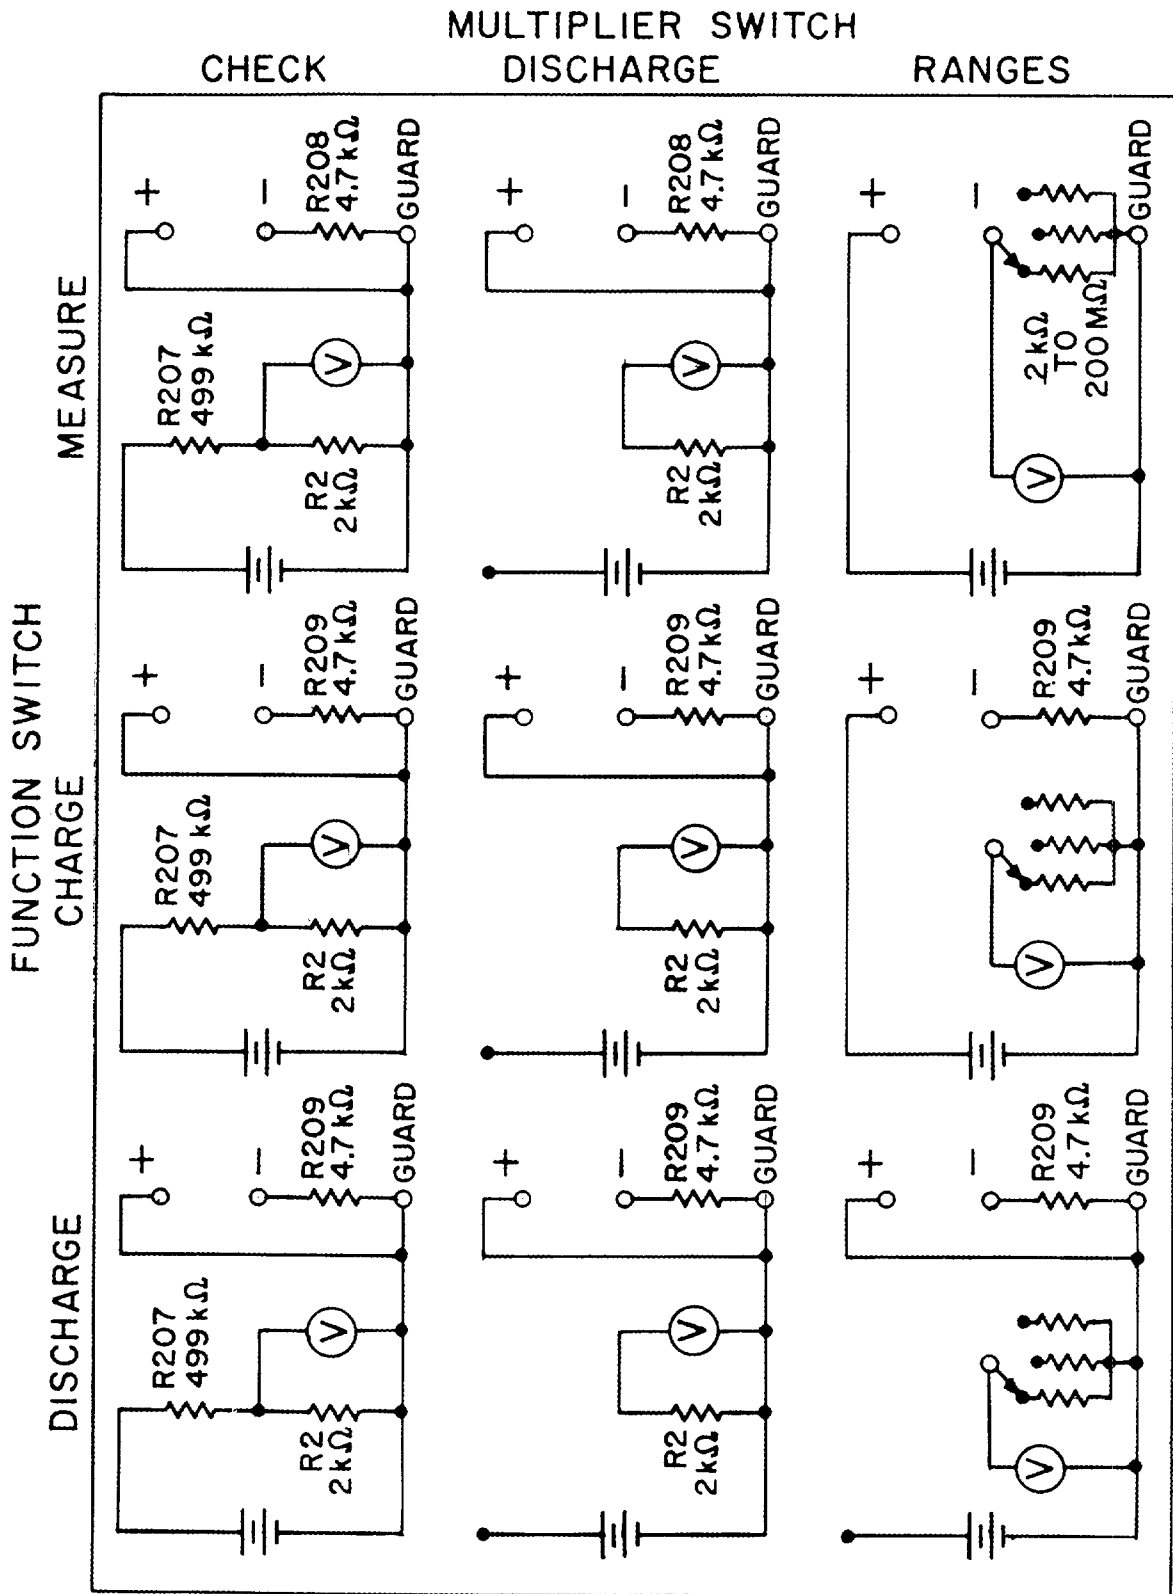

Figure 4-2. Circuit diagram of the Megohmmeter for each position of the MULTIPLIER and Function switches.
3.2.2 CHARGING TIME. The charging time for a capacitor is determined by the maximum current then may be drawn from the power supply (approximately 10 ma at 500 volts and 2 ma at 100 volts) and by the resistance in series with the capacitor. With the function switch set at CHARGE, the series resistance is 4.7 kilohms and is independent of the MULTIPLIER switch setting (see Figure 4-2). With the function switch set at MEASURE, the series resistance is equal to 2000 ohms multiplied by the red engraving of the MULTIPLIER switch indication. This becomes very large on the highest ranges. For measurement of high-valued, low-leakage capacitors, the MULTIPLIER switch should be left on the lowest range (search method) or the function switch should be left at CHARGE (sort method) until the capacitor is charged. A couple of seconds per hundred microfarads is sufficient time for units with low dielectric absorption.
The MULTIPLIER switch selects the standard resistor, R_s , used for the measurement and provides DISCHARGE and CHECK positions. (See Figure 4-2.) In the CHECK position a precision resistor is substituted for the unknown so that the gain control (CHECK adjustment) may be set. The separate function switch facilitates rapid repetitive measurements. The component is discharged by 4.7 k Ω if either the function switch or the MULTIPLIER switch is set to DISCHARGE. Voltage is applied only when the function switch is set to MEASURE and the MULTIPLIER switch is set to a multiplier position (see Figure 4-2). The neon lamp adjacent to the GUARD terminal lights when voltage appears across the UNKNOWN terminals. The lamp is dim when 100 volts is applied and quite bright when the more dangerous 500 volts is applied.